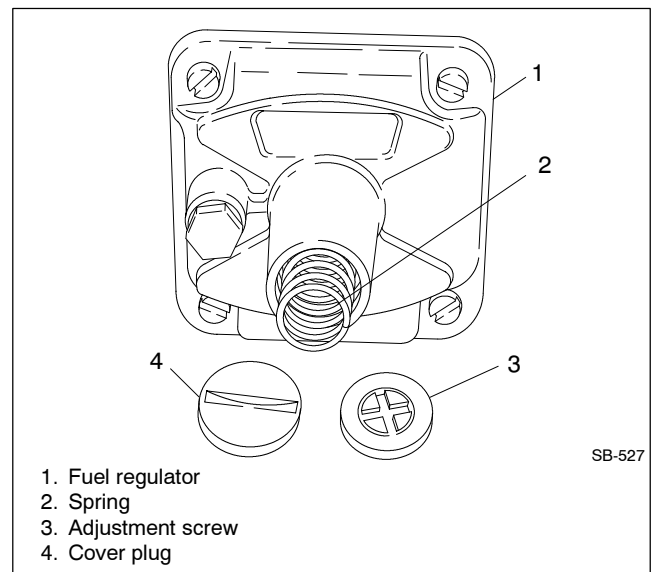

Figure 5 Fuel Regulator Components
- 3.1 Remove the fuel regulator cover plug. See Figure 5.